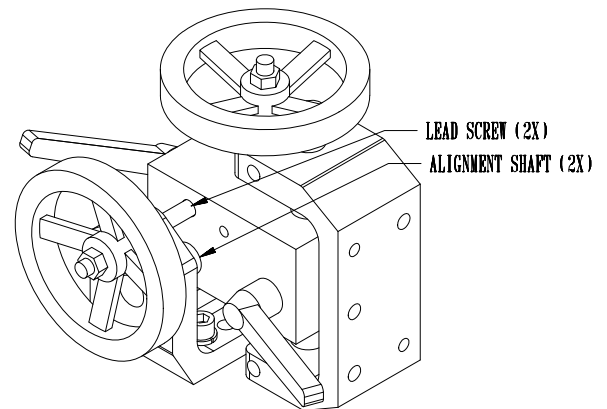

FIG. 8
6. Wipe and relube with never-seez, the vertical and horizontal alignment shafts and lead screws, every six months. See FIG. 8.